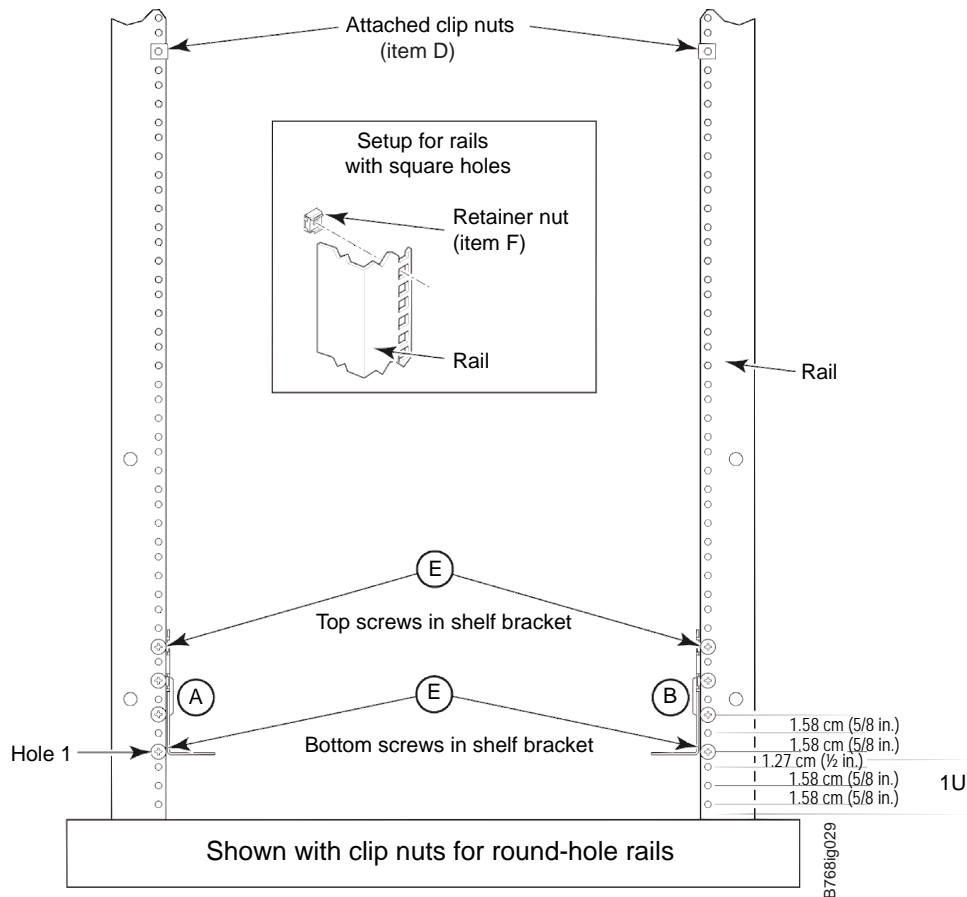
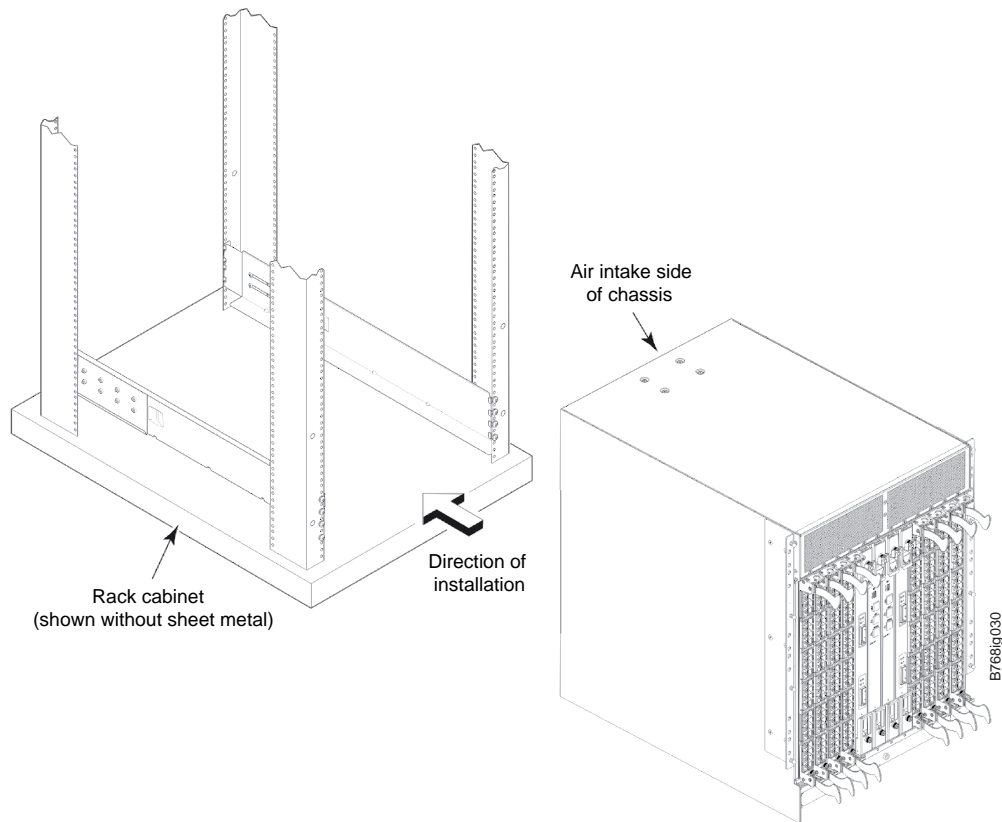

Figure 5. Installing clip or retainer nuts on the vertical cabinet rails
Figure 7. Chassis installation from rear (exhaust aisle side) of the cabinet
5. Attach the clip nuts **D** (for rails with round holes) or retainer nuts **F** (for rails with square holes) to the vertical rails on the exhaust aisle side of the cabinet (see Figure 5). These nuts are used for securing the port side of the chassis to the rack rails using 10-32 x 5/8-inch screws. Use three nuts on each rail. Place the nuts in optimum locations for securing the chassis to the rails. See Figure 7 on page 20 for approximate positions.
7. Move the lift tool to a position near the rear of the cabinet. See Figure 7 on page 20.